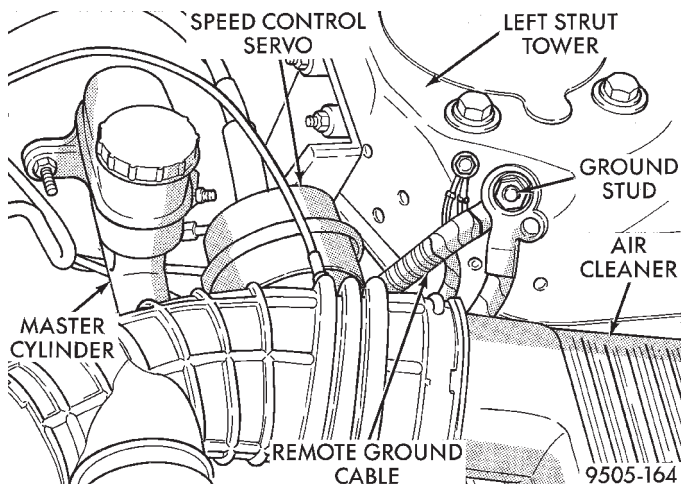
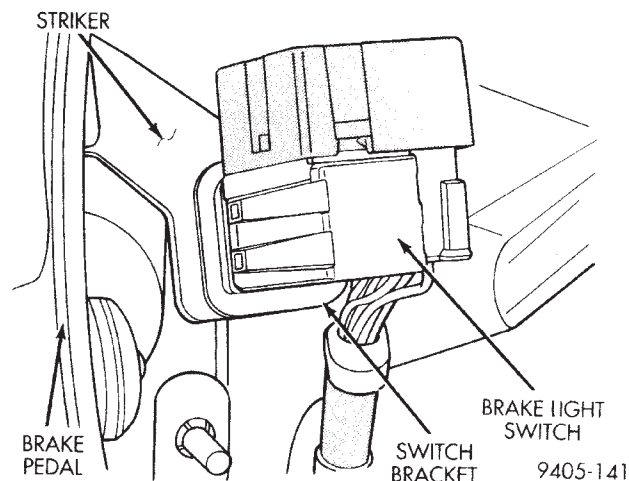

**Fig. 116 Ground Cable Attachment At Strut Tower**
**Fig. 118 Stop Lamp Switch**
(1) Remove the remote ground cable from the ground stud located on the left strut tower (Fig. 116).
(3) Remove the stop lamp switch from the brake pedal bracket. Stop lamp switch is removed using the following procedure. Depress and hold the brake pedal while rotating stop lamp switch (Fig. 118) in a counter-clockwise direction approximately 30 degrees.
(6) Using Mopar Lubriplate or an equivalent, lightly lubricate the surface of the brake pedal striker (Fig. 118) which the plunger of the stop lamp switch contacts.
(7) Hold stop lamp switch firmly in one hand. Using other hand, pull outward on the plunger of the stop lamp switch until it has ratcheted out to its fully extended position.
(8) Connect the wiring harness connector to the stop lamp switch.
(9) Install the stop lamp switch in the brake pedal bracket. Stop lamp switch is installed using the following procedure. Depress the brake pedal as far down as possible. Then while holding brake pedal down, align index key on switch with slot in square hole of mounting bracket. When switch is fully installed in bracket, rotate stop lamp switch (Fig. 118) in a clockwise direction approximately 30 degrees.
**CAUTION:** Do not use excessive force when pulling back on brake pedal to adjust the stop lamp switch. If too much force is used, damage to the stop lamp switch or striker (Fig. 118) can result.
(10) Gently pull back on the brake pedal until it stops moving. This will cause the switch plunger to ratchet back to its correct position.
(11) Install the silencer panel/air duct.
(12) Connect the remote ground cable for the battery on the ground post located on left shock tower (Fig. 116).